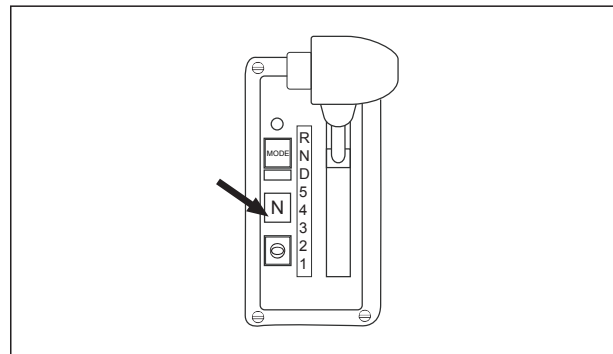

Fig 4.14
3. Make sure the transmission shift selector is in the 'NEUTRAL' position.(see Fig 4-14).